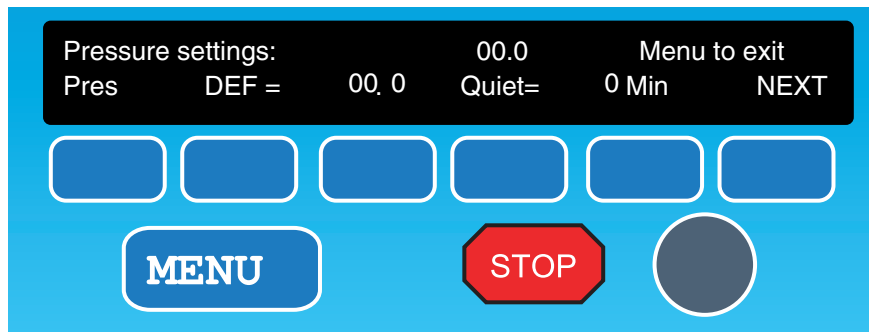

Figure 7-11: The **Pressure Settings** screen.
- 1) Starting from the main screen, press the **SETUP** **FLUIDS** **NEXT** softkeys to display the **Pressure Settings** screen (Figure 7-11). The internal instrument pressure will be displayed on the top line.